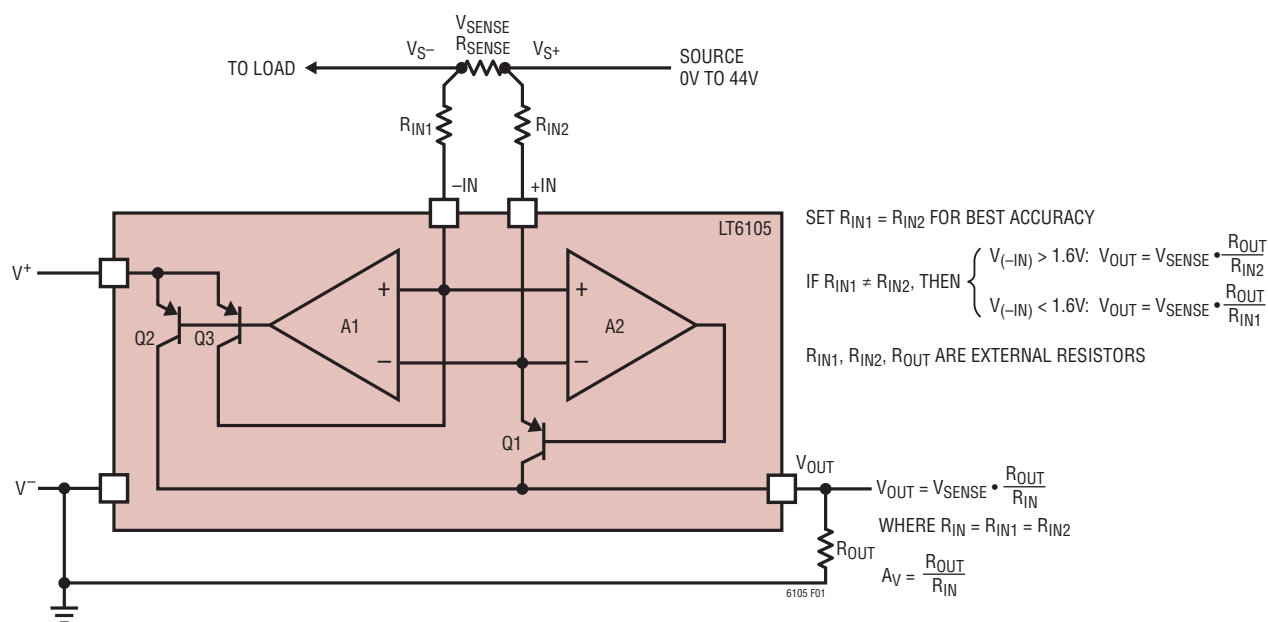

Figure 1. Simplified Block Diagram
**+IN (Pin 6/Pin 8):** Positive Sense Input Terminal. Connecting a source to  $V_S^+$  and a load to  $V_S^-$  will allow the LT6105 to monitor the current through  $R_{SENSE}$ , refer to Figure 1. Connect +IN to an external gain-setting resistor  $R_{IN2}$  to set the gain. +IN remains functional for voltages up to 44V, referred to  $V^-$ .
The LT6105 extended input range current sense amplifier (see Figure 1) provides accurate unidirectional monitoring of current through a user-selected sense resistor. The LT6105 is fully specified over a  $-0.3\text{V}$  to  $44\text{V}$  input common mode range. A high PSRR  $V^+$  supply ( $2.85\text{V}$  to  $36\text{V}$ ) powers the current sense amplifier. The input sense voltage is level shifted from the sensed power supply to the ground reference and amplified by a user-selected gain to the output. The output voltage is directly proportional to the current flowing through the sense resistor.
### THEORY OF OPERATION (Refer to Figure 1)
The crossover voltage, the voltage where the  $g_m$  of one input stage is transferred to the other, occurs at 1.6V above  $V^-$ . Near this region, one input stage is shutting off while the other is turning on. Increases in temperature will cause the crossover voltage to decrease. For input operation between 1.6V and 44V, the common base PNPs are active (Q2, Q3 of Figure 1). The typical current through each input at  $V_{SENSE} = 0V$  is 15 $\mu A$ . The input offset voltage is 300 $\mu V$  maximum at room temperature. For input operation between 1.6V to 0V, the other PNP is active. The current out of the inputs at  $V_{SENSE} = 0V$  is 100nA. The input offset voltage is untrimmed and is typically 300 $\mu V$ .
The LT6105 is designed to exhibit fast response to inputs for the purpose of circuit protection or signal transmission. This response time will be affected by the external circuit in two ways—delay and speed. If the output current is very low and an input transient occurs, there may be an increased delay before the output voltage begins changing. This can be improved by increasing the minimum output current, either by increasing  $R_{SENSE}$  or decreasing  $R_{IN}$ . The effect of increased output current is illustrated in the step response curves in the Typical Performance Characteristics section of this data sheet. Note that the curves are labeled with respect to the initial output currents. The speed is also affected by the external circuit. In this case, if the input changes very quickly, the internal amplifier will slew the base of the internal output PNP (Figure 1) in order to maintain the internal loop. This results in current flowing through  $R_{IN}$  and the internal PNP. This current slew rate will be determined by the amplifier and PNP characteristics as well as the input resistor,  $R_{IN}$ . See the Slew Rate vs  $R_{IN}$  curve in the Typical Performance Characteristics section. Using a smaller  $R_{IN}$  will allow the output current to increase more quickly, decreasing the response time at the output. This will also have the effect of increasing the maximum output current.